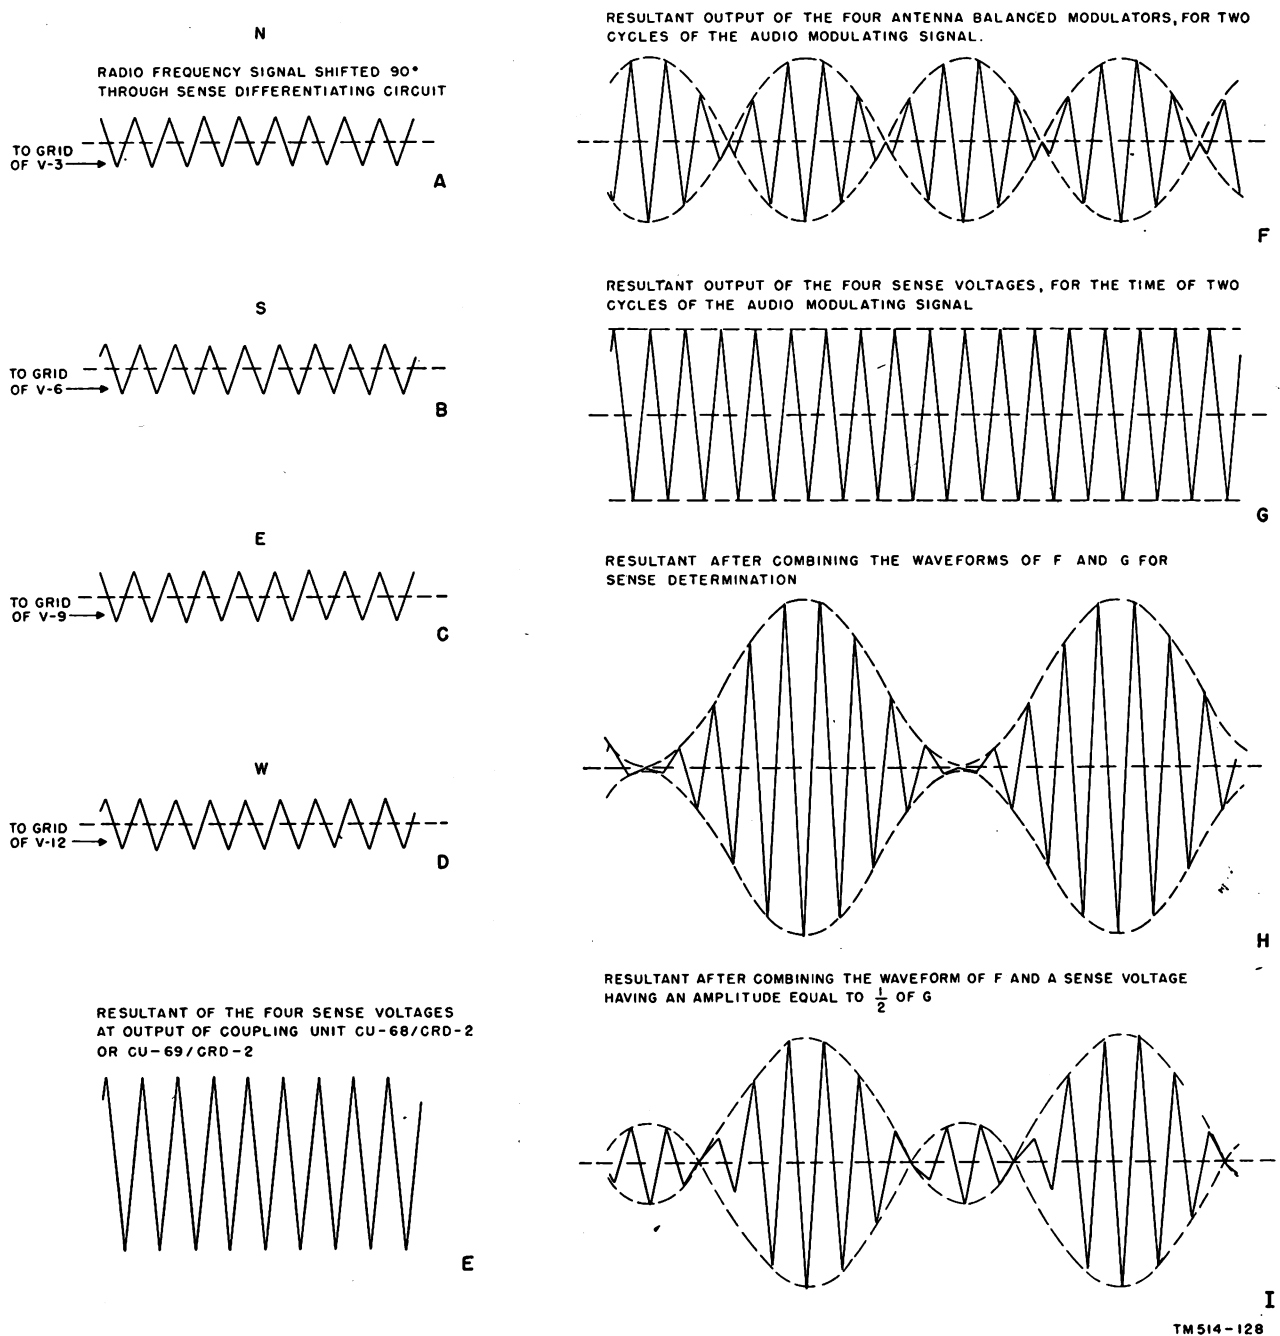

Figure 68. Theoretical waveforms showing development of resultant sense signal for an r-f wave arriving at an azimuth angle of 45° at antenna system.
Waveforms showing the operation of the sense circuits are presented in figure 68.
a. A portion of the output of each antenna is passed through a differentiating circuit which shifts the phase of the signal approximately 90° . The r-f signal in A through D, figure 68
is shown displaced 90° with respect to the r-f signals shown in B, E, H, and K, figure 67. The four differentiated sense signals are fed through coupling tubes V-3, V-6, V-9, and V-12 to the plate of one tube of each balanced modulator. The signals are combined additively, resulting in the waveform shown in E, figure 68. The phase of this resultant r-f sense signal
b. Sketches F and G, figure 68 show the r-f envelope for the combined output of the antenna balanced modulators and the resultant output of the combined sense voltages for two cycles of the audio modulating voltage. The algebraic sum of these two waveforms results in the waveform shown in H, figure 68. The r-f envelope has two minimums per audio modulating cycle (F, fig. 68). However, after combination with the sense signal (G, fig. 68), the resultant waveform (H, fig. 68) has only one minimum per audio modulating cycle. This is due to the fact that the phase of the r-f signal in F, figure 68, is reversed for each half-cycle of the audio modulating voltage, whereas the phase of the r-f signal in G, figure 68, is not so influenced. The combining of the r-f waves of F and G, figure 68 is equivalent to combining a figure-8 pattern with an omnidirectional sense pattern (fig. 56), and the resulting r-f envelope (H, fig. 68) is equivalent to the resultant cardioid pattern. In this manner, the 180° ambiguity of the bearing pattern can be resolved.
c. The amplitude of the r-f wave in G, figure 68, is equal to the maximum amplitude of the r-f envelope in F, figure 68. However, it is not necessary to maintain this exact amplitude relationship to obtain sense indications. Sketch I, figure 68, shows the resultant sense waveform when the amplitude of the r-f wave in G, figure 68, is reduced to half its original value.